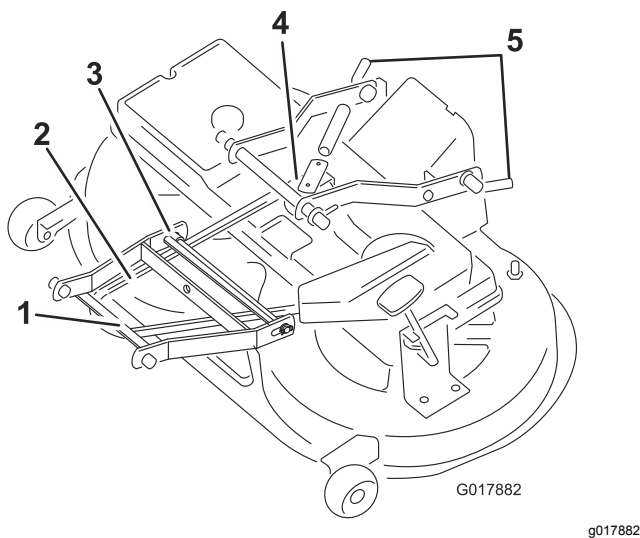

**Figure 43**
2. Position the blades 90 degrees to each other (Figure 43).